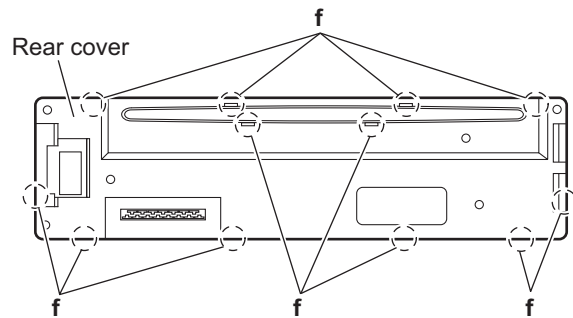

Fig.9
- (2) Release the twelve joints **f** and remove the rear cover. (See Fig.9.)